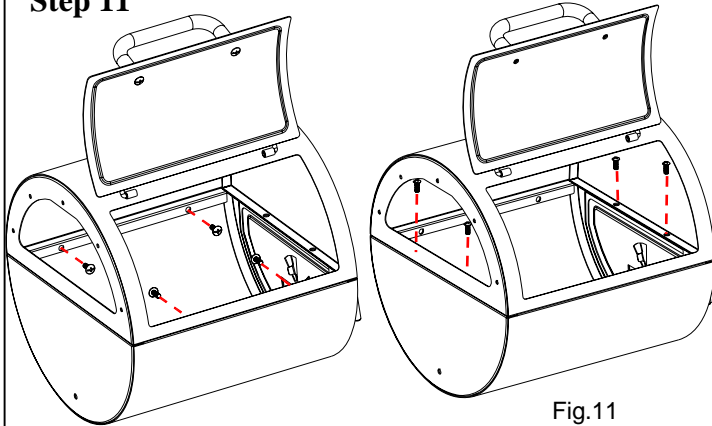

Fig.11
*Locate:* Firebox Top and Bottom halves, (8) M6x15 bolts
Refer to Fig. 11. Note- the clean-out door is in the BOTTOM half and facing to the RIGHT. The smoke passage opening is in the TOP half and is facing to the LEFT. Fasten the two halves together with (8) M6X15 bolts as shown.